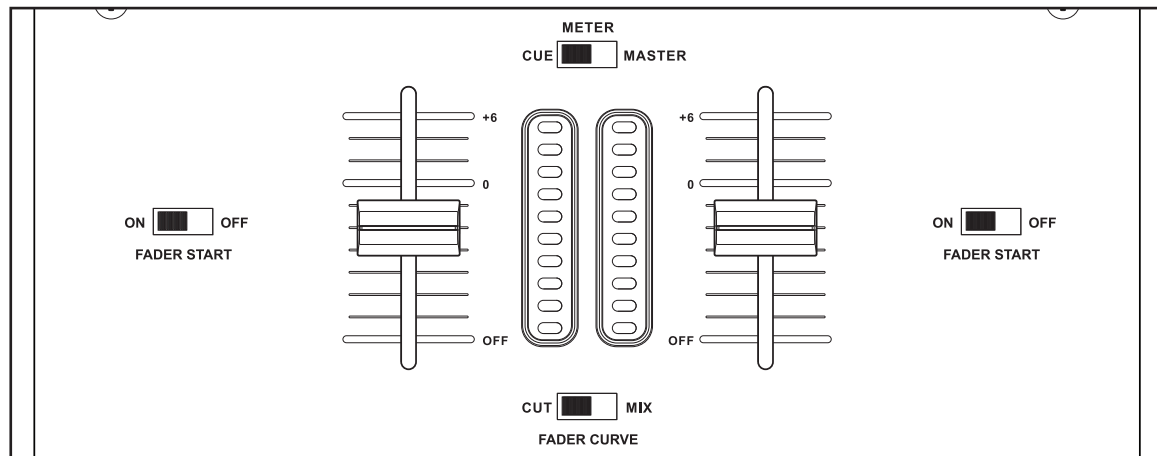

Figure 4.1
4.1 Top Panel Controls (Figure 4.1)